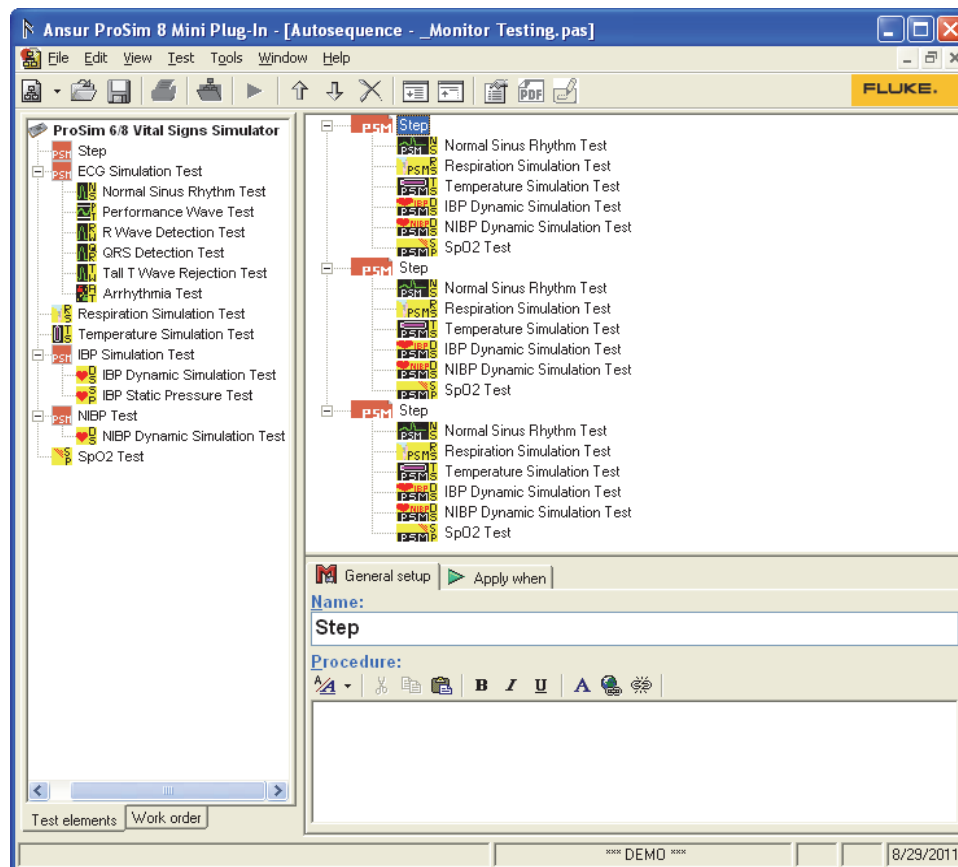

Figure 5-17. Monitor Testing Autosequence Window
3. Click the **Get** button. Ansur gets and loaded the checked autosequence from the Simulator into the PC and then opens the Autosequence window shown in Figure 5-17.